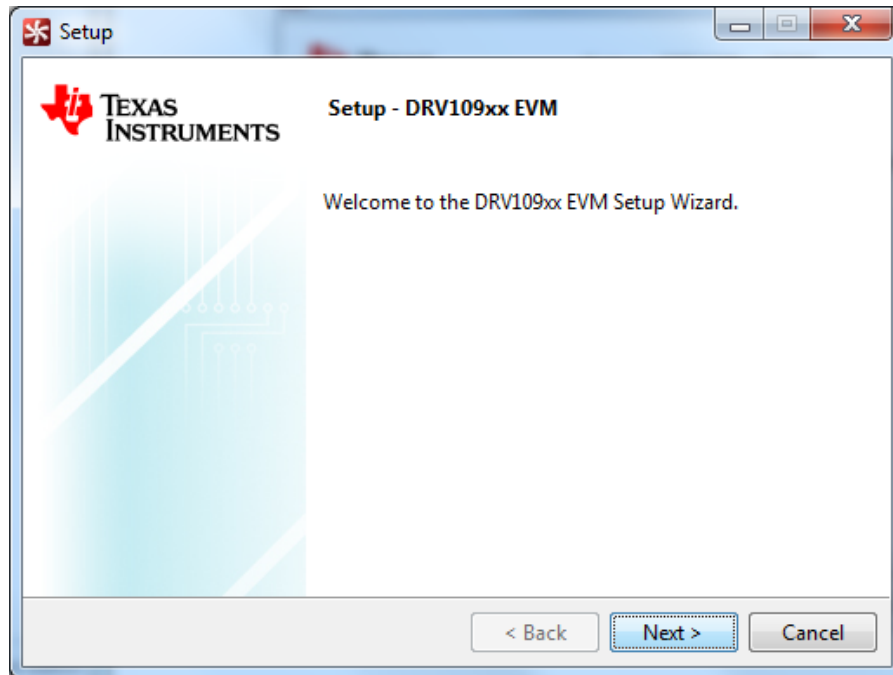

Figure 17. GUI Installation Initialization
- The *Setup* window is displayed as shown in Figure 17. Click the *Next >* button to begin the setup wizard.